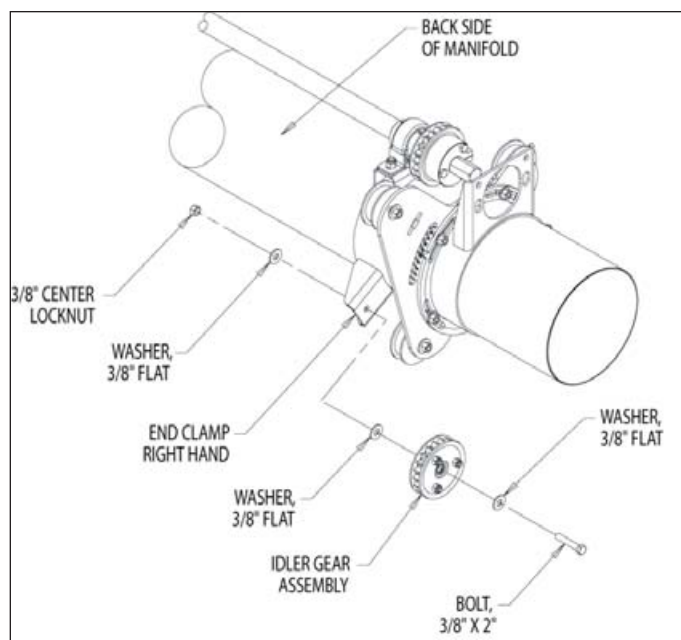

Figure 22, Idler gear assembly to RH end clamp
1. Assemble one idler gear assembly each to the RH & LH end clamps, and to all idler mount clamps (back side of manifold only) using one 3/8" X 2" bolt, three 3/8" flat washers and one 3/8" centerlock nut per each idler gear assembly (Figure 22 & 23).